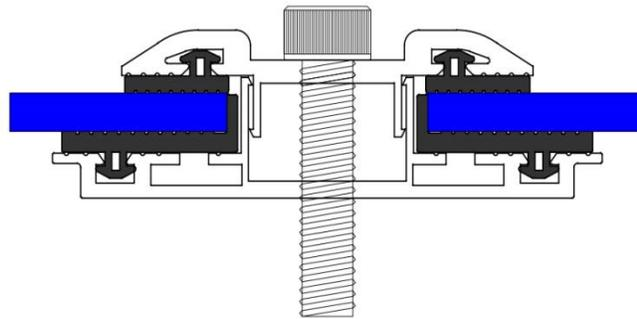

Figure 3 Cross-section structure of clamp
B. The modules clamps must not contact the glass directly or deform and damage the glass in any cases, clamp need embedded with the rubber washer, which plays a buffer function when install double glass module and the contact area of clamp with the glass surface must be smooth, otherwise maybe damage the modules. Avoid shading effects from the modules clamps. We suggest you use the bolt show in figure 3, which also needs to make sure the bolt not too high to cause the shading problem.